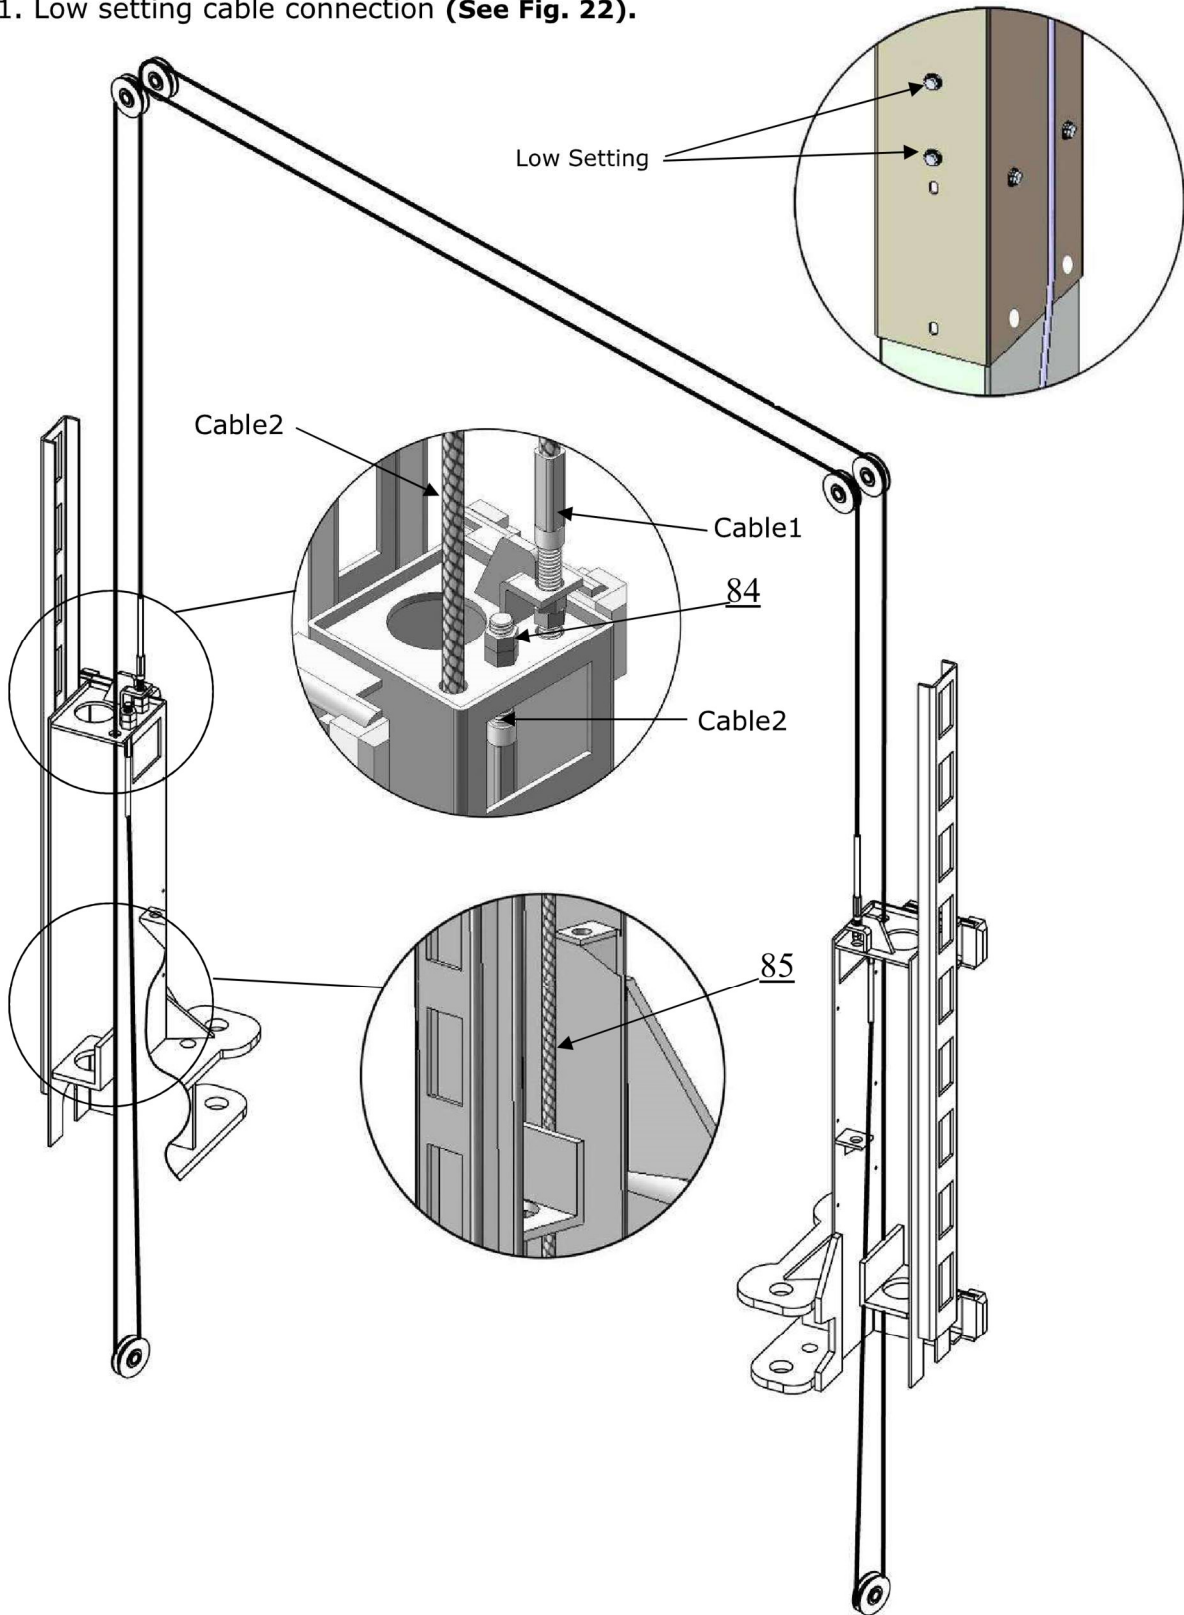

Fig. 22
1. Low setting cable connection (See Fig. 22).